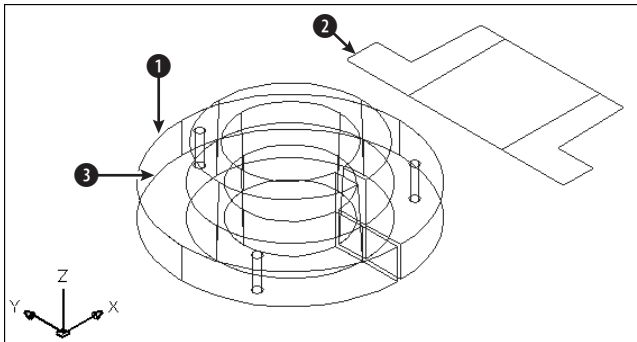

Figure 24-32: A bushing in 2D and 3D. The 3D bushing has been exploded but still looks the same. It can now be used to extend lines.
2. Save the file as `ab24-10.dwg` in your AutoCAD Bible folder. You see a bushing, in 2D and 3D, as shown in Figure 24-32. The 3D bushing has been exploded but still looks the same. It can now be used to extend the 2D lines.
Select objects: *Pick the 3D bushing at ❶ in Figure 24-32.*